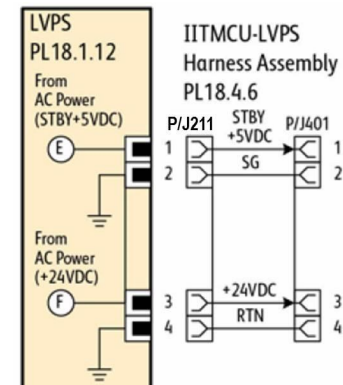

Figure 2
Then check on the LVPS for the presence of the 5 Volts Standby at P211 between pins 1 & 2. Refer to Figure 2. If 5vdc is not present, replace LVPS PL 18.1 item 12.